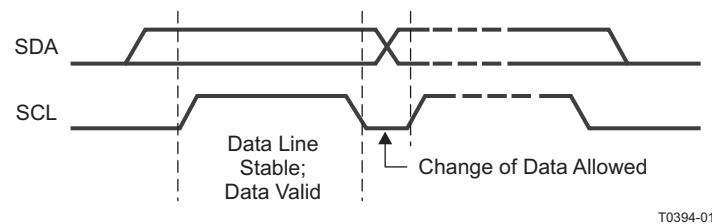
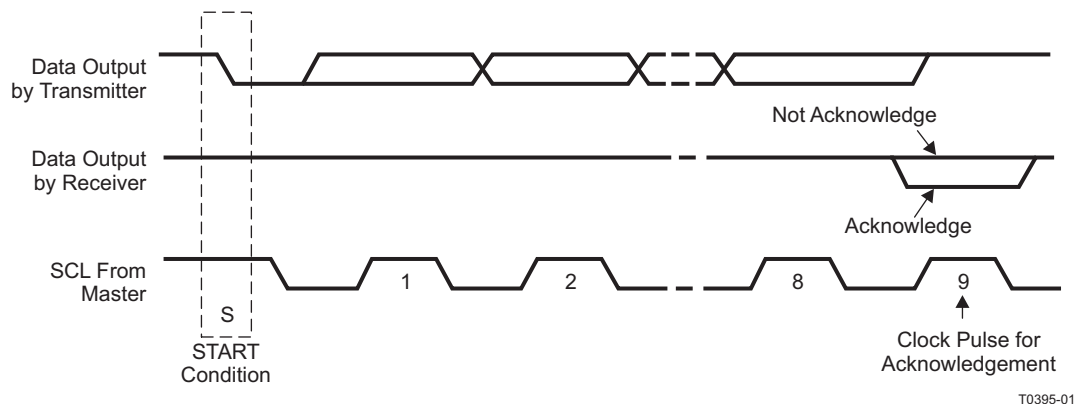

Figure 51. I²C Bit Transfer
Figure 52. I²C Acknowledge
- The master then generates the SCL pulses and transmits the 7-bit address and the *read/write direction bit* R/W on the SDA line. During all transmissions, the master ensures that data is *valid*. A *valid data* condition requires the SDA line to be stable during the entire high period of the clock pulse (see Figure 51). All devices recognize the address sent by the master and compare it to their internal fixed addresses. Only the slave device with a matching address generates an *acknowledge* (see Figure 52) by driving the SDA line low during the entire high period of the ninth SCL cycle. On detecting this acknowledge, the master knows that a communication link with a slave has been established.